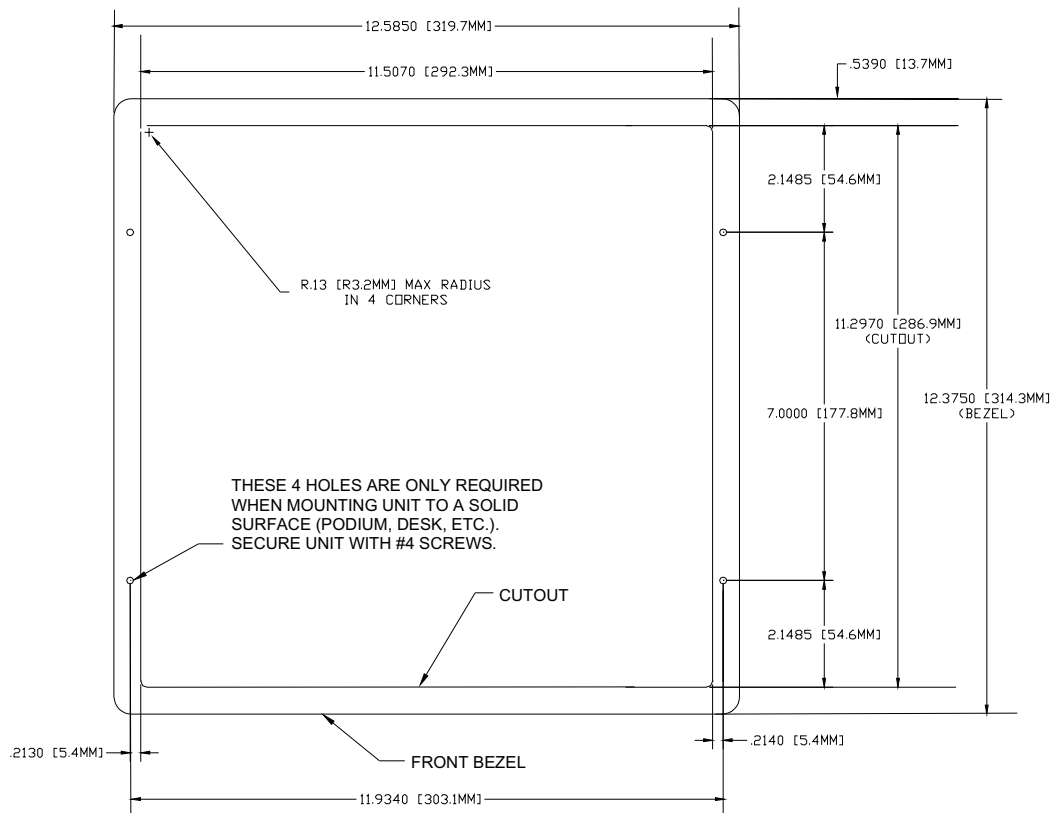
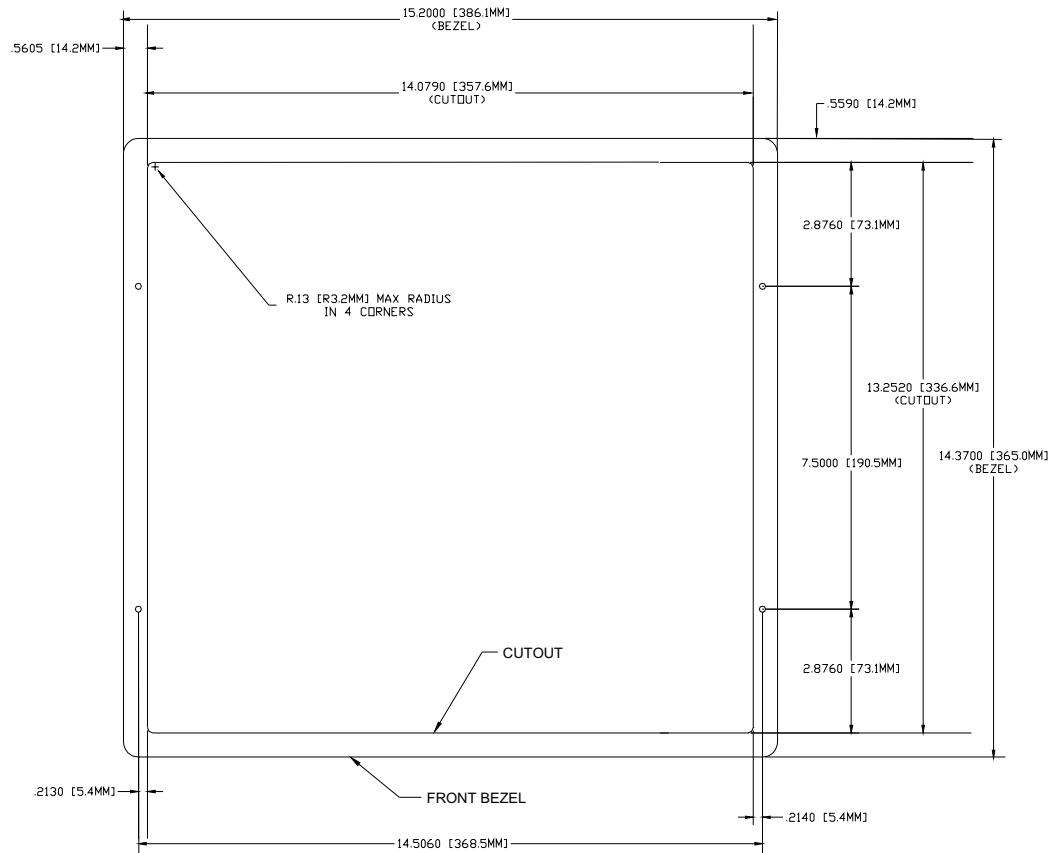

FIG. 43 NXD 12-inch Wall Mount panel dimensions using #4 mounting screws
FIG. 44 NXD 15-inch Wall Mount panel dimensions using #4 mounting screws
2. Cut out the surface for the **12-inch Wall Mount** using the dimensions shown in FIG. 43 and for the **15-inch Wall Mount** using the dimensions shown in FIG. 44.